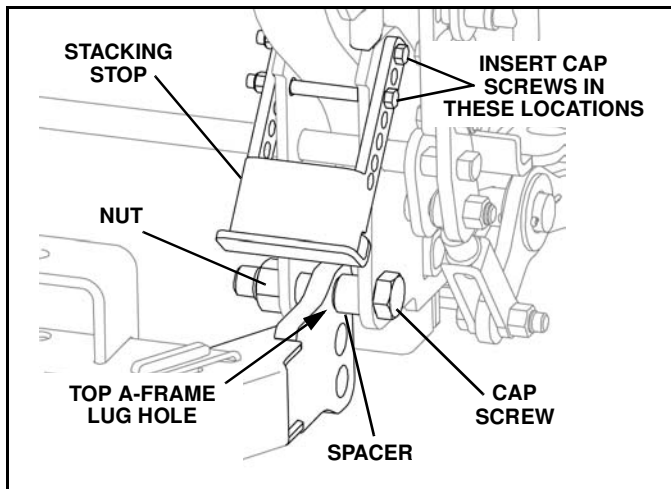

Figure 1-13
c. With a dimension of 10" to 11", the top lug holes are used to connect the A-Frame to the Lower Light Lift Bar (LLL) frame. Insert the 1.00-8 x 5" hex head cap screw from the outside through the LLLB frame, spacer, A-Frame lug top hole and LLLB frame. Secure with 1.00 x 8 lock nut. Position the Stacking Stop as shown and secure with two 1/2"-13 X 5.00 hex head cap screws and two 1/2"-13 lock nuts as shown. Repeat this step for the opposite side. (See Figure 1-13).